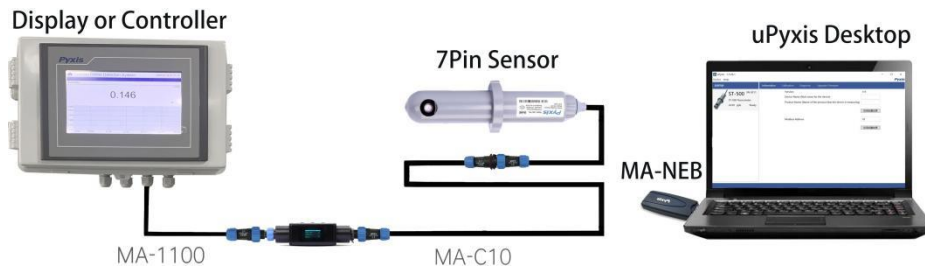

Figure 12. Bluetooth connection to ST-601 sensor with MA-WB and MA-NEB and uPyxis Desktop App.
3. On **uPyxis®** Desktop App, click Device → **Connect via USB-Bluetooth** or **Connect via USB-RS485** (Figure 12).
4. If the connection is successful, the ST-601 sensor and its Serial Number (SN) will be displayed in the left pane of the **uPyxis®** window.